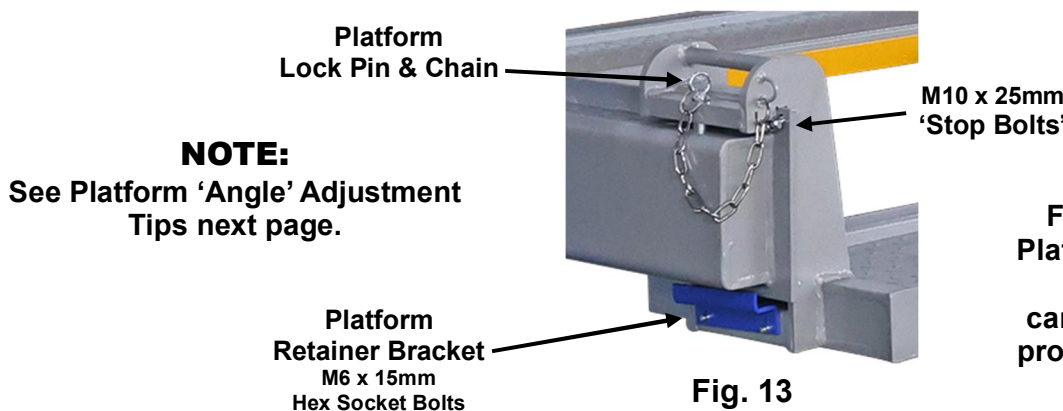

Fig. 13
- 3) Once the platforms are secured onto the bolster beams, install **M10 x 25mm 'stop bolts'** through ends of bolster beam and secure with **M10 nuts**. Secure platform position to bolster using **lock pins**. **Fig. 13.**
- 4) Secure each platform to bolster beam using the **platform retainer bracket**; mount using **M6 x 15mm hex socket bolts**, which maintains platform / bolster beam alignment when fully lowered. **Fig. 13.**